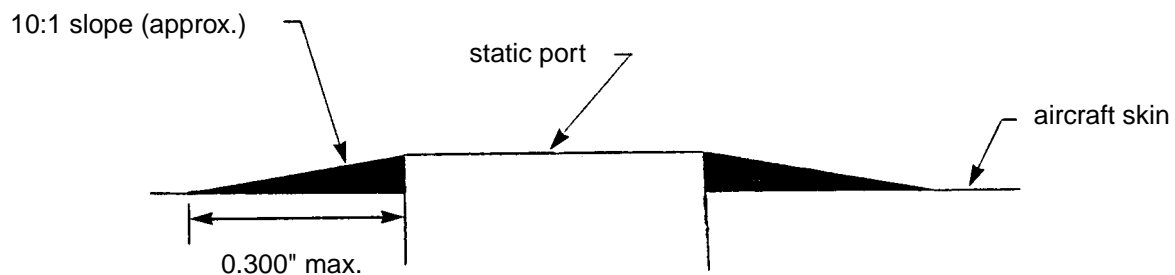

FIGURE 8 - SEALING STATIC PORT
- 5.5.2 Before test flying **unpainted** aircraft, fill the gap between the static port and the exterior skin of the aircraft to meet aerodynamic requirements. Apply the bead of DHMS S3.01/B2 or DHMS S3.01/B1/2 sealant to the gap around the entire circumference of the static port according to PPS 21.16. Ensure the sealant begins flush with the top surface of the static port and fair the sealant toward the adjacent skin. The faired sealant must extend a distance of approximately 10X the height of the static port (10:1 slope) to a maximum distance of 0.300" around the circumference (see Figure 8). After flight testing and immediately before painting, remove the sealant according to PPS 34.11.
- 5.5.3 Before flying **painted** aircraft, fillet seal the gap between the static port and the exterior skin of the aircraft to capture the forward facing paint edge and to meet aerodynamic requirements. Apply the bead of DHMS S3.01/B2 or DHMS S3.01/B1/2 sealant to the gap around the entire circumference of the static port according to PPS 21.16. Ensure the sealant begins flush with the top surface of the static port and fair the sealant toward the adjacent skin. The faired sealant must extend a distance of approximately 10X the height of the static port (10:1 slope) to a maximum distance of 0.300" around the circumference (see Figure 8).